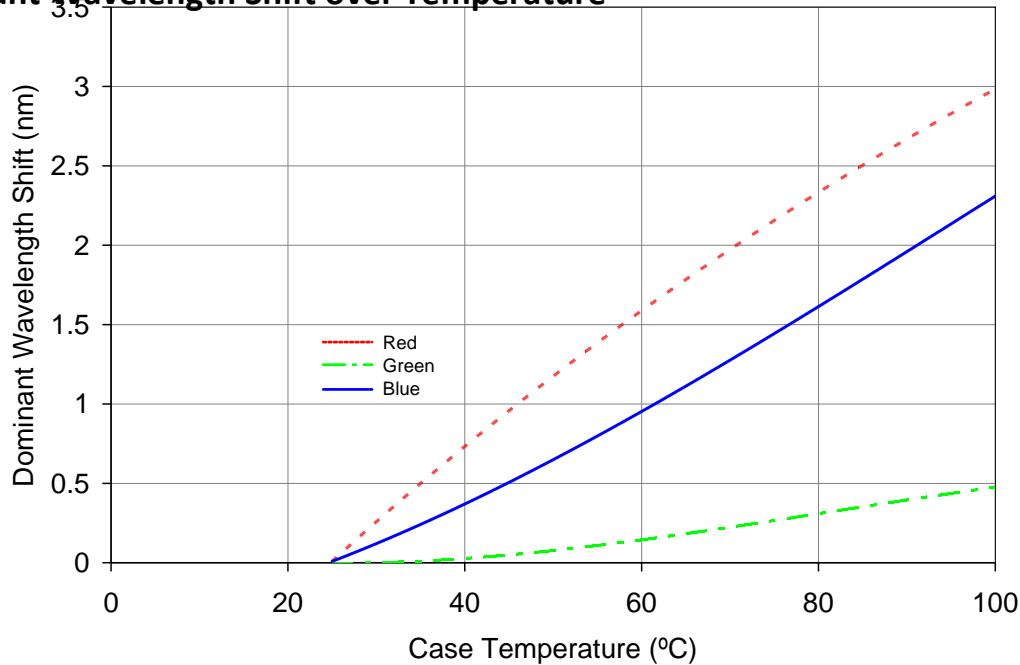

Figure 7: Typical dominant wavelength shift vs. case temperature.
4. Refer to Figure 7 for typical dominant wavelength shift over temperature.